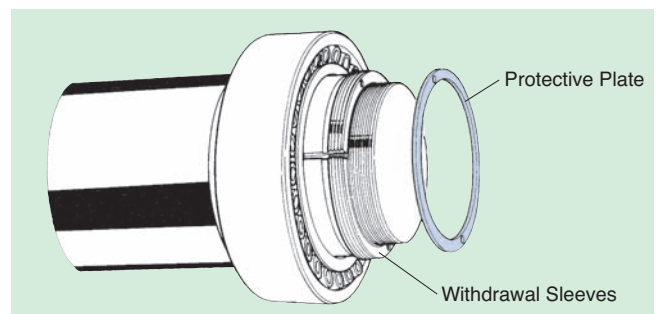

Fig. 13
(2) Install the bearing and hydraulic withdrawal sleeve (see **Fig. 13**).